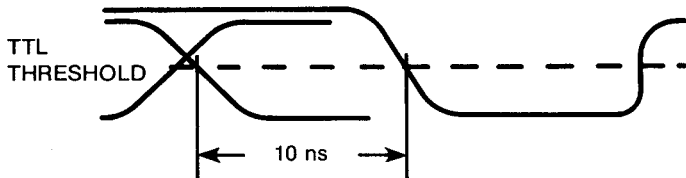

Figure 5.7
- a. Adjust D1 (R13) for 10 ns between the last address edge and falling edge of the \overline{WE} (see Figure 5.7).